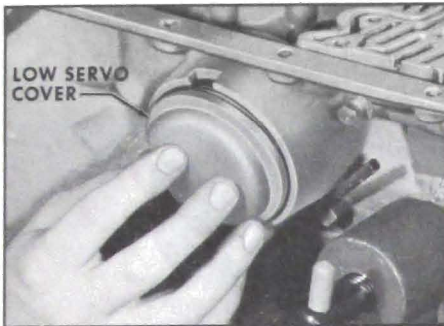

Figure 5-124
3. Remove tool J-21495-1 from case. Remove low servo cover. **NOTE: If necessary aid removal with screwdriver. See Figure 5-124.**